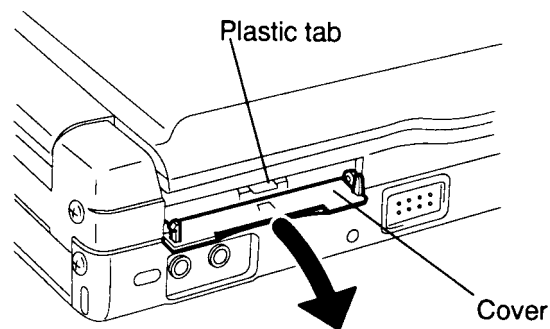

Figure 4-2 Opening the cover
To remove an optional memory card from the T4850CT, follow the steps below and refer to Figures 4-2 and 4-3.
3. Open the **cover** to the expansion memory slot located on the left side of the computer (Figure 4-2).
4. Grasp the **plastic tab** and pull it so the card comes partially out of the computer (Figure 4-2).
2. Close the **expansion memory cover** (Figure 4-2).